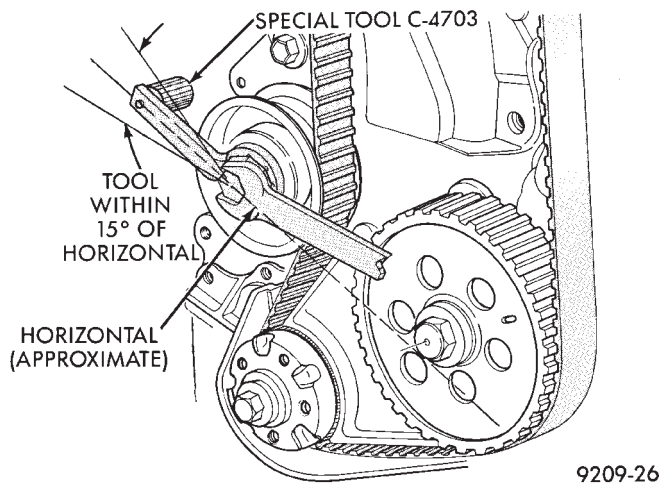

Fig. 13 Adjusting Drive Belt Tension
- (5) Rotate crankshaft till number 1 cylinder is at the TDC position.
- (6) Put belt tension Special Tool C-4703 horizontally on large hex of timing belt tensioner pulley and loosen tensioner lock nut.
- (7) Reset belt tension Special Tool C-4703 index if necessary to have axis within 15° of horizontal. (Fig. 13)